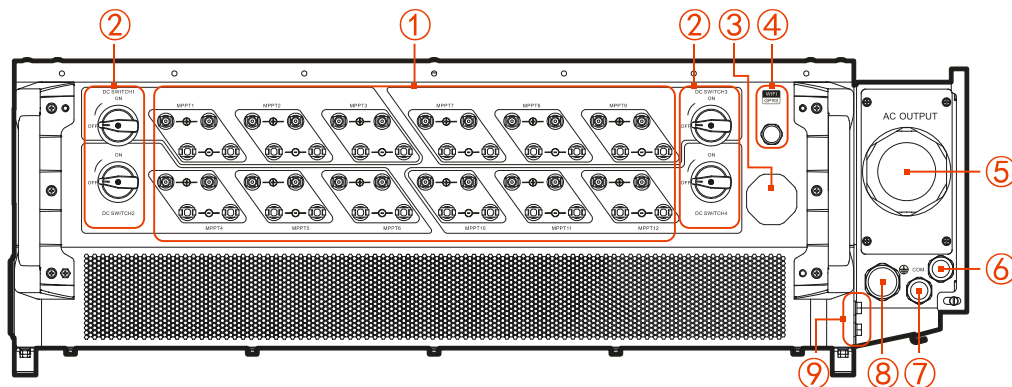

Figure2-6 Bottom layout
The inverter's bottom layout is shown as Figure2-6.
SPI175K-B-H has 18 groups PV string inputs. The connection identifiers MPPT10+ ~ MPPT12+, MPPT10- ~ MPPT12- in Figure 2-6 are not installed with PV connectors.
The DC switch (the position is shown as ② in Figure2-6) is the connection switch between the inverter and the PV string, when necessary, it can safely disconnect the connection of the inverter and the PV string. In order to ensure the safety of the operator, make sure that the DC switch is turned off under the following conditions:
WIFI/GPRS communication is mainly used for remote monitoring, and the running information of the inverter can be monitored through APP on mobile phone or energy cloud on PC. WIFI/GPRS interface is shown as ④ in Figure2-6.